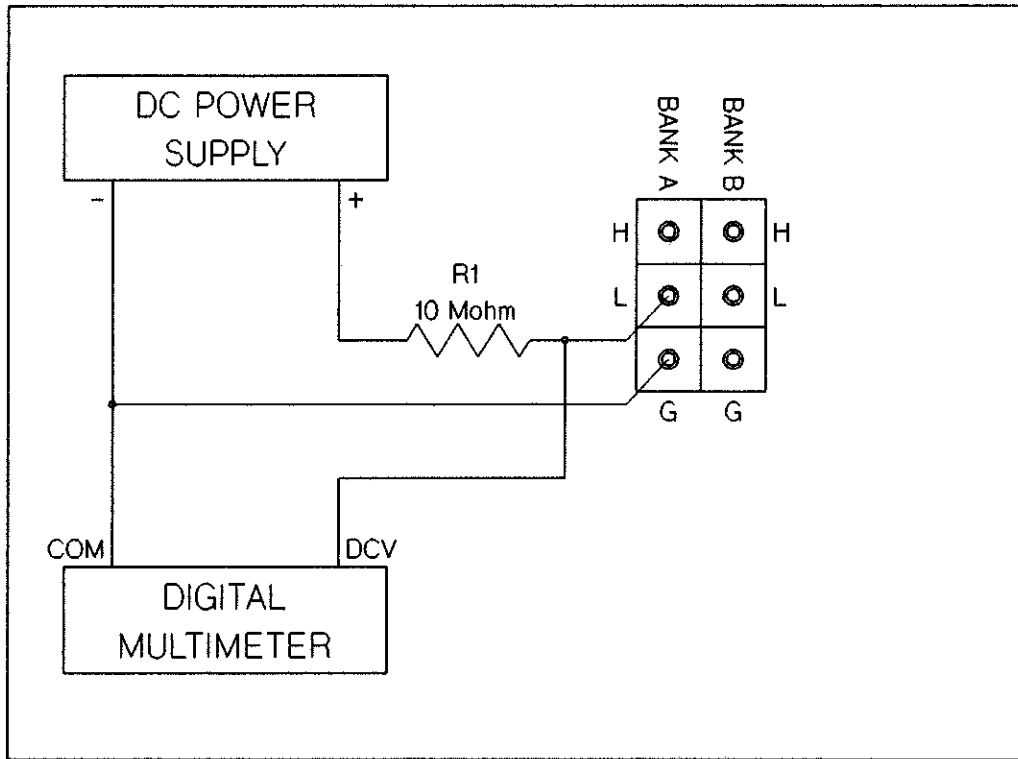

Figure 8-25 HP 44705A/H Bank A LOW to GUARD DC Isolation
53. Connect the test circuit between the Bank A common LOW test point and the Bank A common GUARD test point on the test fixture as shown in Figure 8-25.